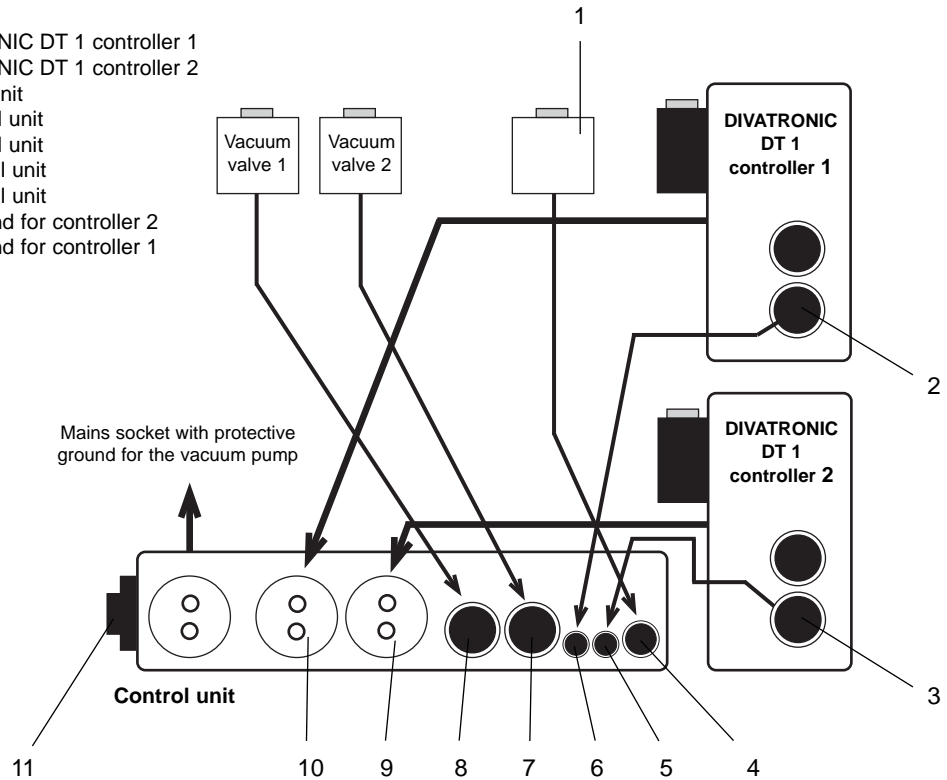

Fig. 15 Electrical connection on the DIVAC system SCC 0.6 L - 1.2 L - 2.2 L (EURO Version)
Connect DIVATRONIC DT 1 controller connection “SOL.2” to the connection “V.IN. 1” or “V.IN. 2” on the control unit using the supplied cables (see Fig. 15).
Insert the two plugs of the vacuum valves into the sockets “SOL. 1” and “SOL. 2” on the control unit (see Fig. 15).
Insert the plug on the cable for the pump relief valve into socket “PRV” on the control unit (see Fig. 15).
**Key to Fig. 15**